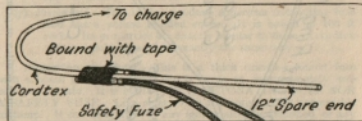

Fig 11. Initiation of cordtex (using 2 detonators to minimise risk of failure).
(b) **Initiation.**—Cordtex can be initiated by one detonator, but for the reasons given in para 4 (c) above two detonators should normally be used each with its own safety fuze. Lash the detonators firmly to the fuze as shown in Fig 11. See that the detonators are in good contact with each other as well as with the detonating fuze. It is particularly important that the closed ends of the detonators are lashed on in good contact with the fuze. The smallest gap may well cause failure. In emergency one detonator and safety fuze may be used. Where the detonating fuze is suspected
2. Initiation.—Use an improvised initiating set composed of 1 ft of detonating fuze fired by two detonator assemblies with detonator, safety fuze and igniter (see Fig 11). Make these sets up previously with sealing tubes at both ends of the detonating fuze. In the 2-in torpedo Mk 1 a primer is required; this fits into a recess at the male end of the tube. In the 1½-in torpedo a special primer is already in position; it contains a hole for the detonating fuze.